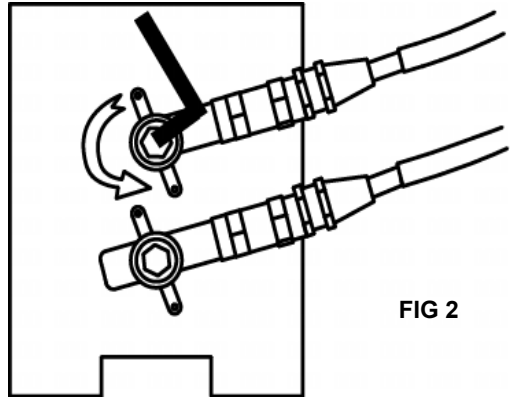
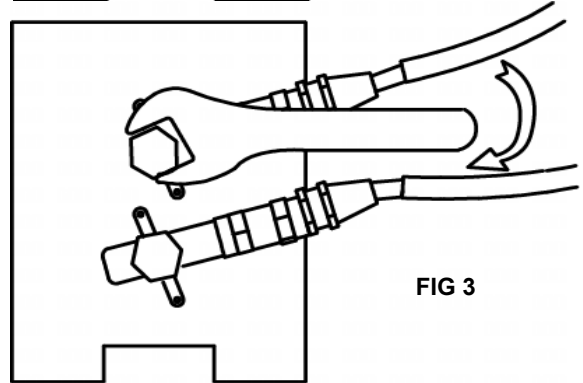

FIG 2
FIG 3
3. Remove the cover on the top valve using an adjustable wrench. Using a 5mm Allen key, place key inside of the valve and turn counter clockwise slowly until you reach a stop (see figure 2). Then screw the cap back on the top of the valve and tighten to ensure a proper seal (see figure 3).